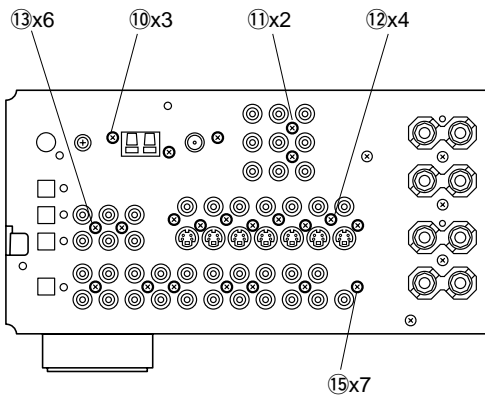

Fig. 4
- b. Remove 3 screws (⑩) and then remove the AM/FM Tuner in Fig. 4.
- c. Remove 2 screws (⑪) and then remove the Operation (5) P.C.B. in Fig. 4.
- d. Remove 4 screws (⑫) and then remove the Operation (3) P.C.B. in Fig. 4.
- e. Remove 7 screws (⑬ and ⑭) and then remove the Operation (2) P.C.B. in Fig. 4 and 5.
- f. Remove 8 screws (⑮ and ⑯) and then remove the Input (1)/(2) P.C.B. in Fig. 4 and 5.